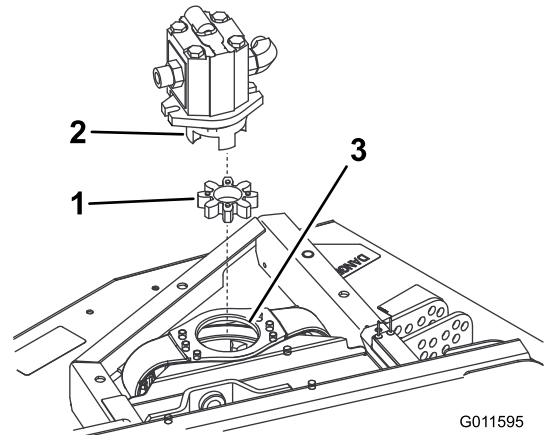

Figure 2
3. Remove elastomeric spider from inside pulley coupler. Inspect for wear and replace if worn. Otherwise, retain for installation on new front deck (Figure 2).
**Note:** Inspect spider hub for wear and replace if worn (Figure 2).